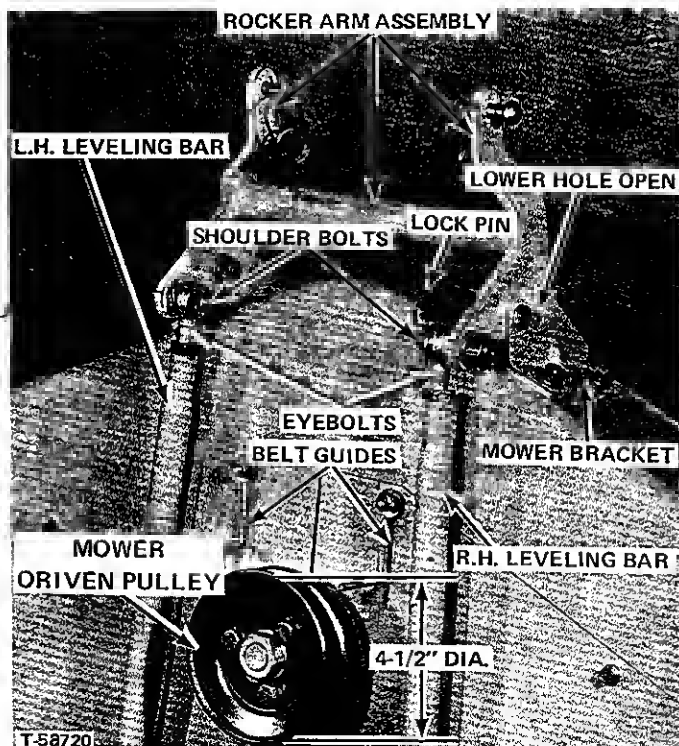

Figure 5.
1. See Figure 5. Bolt rocker arm assembly in the upper holes of the mower brackets with bolts, spacers, flat washers, lockwashers and nuts.
2. See Figure 5. Place shoulder bolts in rear holes of rocker arm assembly and install eyebolts on front end of right and left leveling bars on plain end of shoulder bolts and secure with lock pins.
4. See Figure 5. Install belt guides as shown.
1. See Figures 5 and 7. Park the tractor on level ground with the mower positioned on either side. Turn the front wheels fully away from the mower to give clear access to the tractor under side. Slide the mower underneath the tractor, then straighten the front wheels. Attach the mower rocker arm assembly to the lower holes in tractor front hitch using round head pins and lock pins.